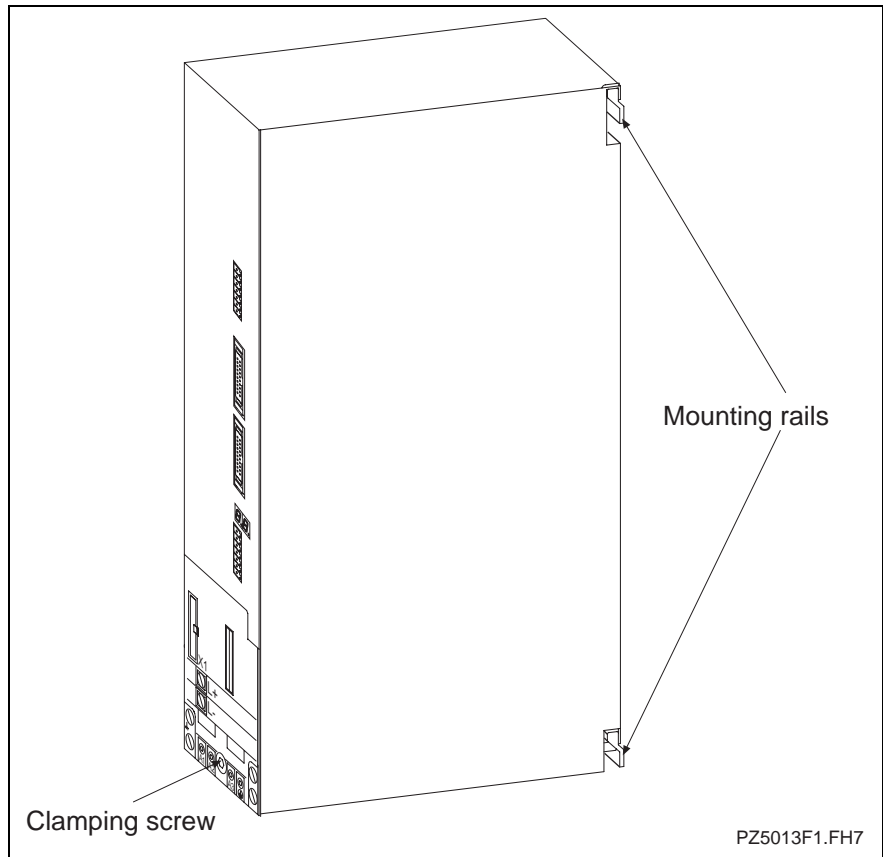

Fig. 10-3: Mounting the drive controller
3. Tighten clamping screw (see Fig. 10-3).